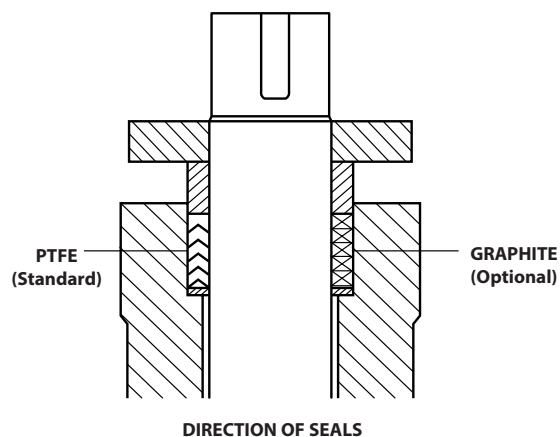

Figure 9.
3. Place the coupling onto the valve stem. If the valve has a two-piece “no-play” bolted coupling, assemble the coupling loosely on the valve stem. Use socket head cap screws and lock nuts. (See **Figure 9**)